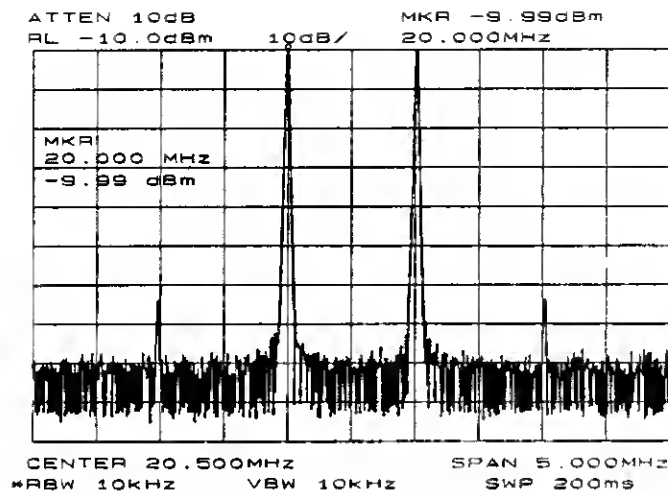

Figure 3-9. Signal peak set to reference level.
3. For greatest measurement accuracy, position the peaks of the source signals at the reference level. The spectrum analyzer function **MARKER -> REF LVL** allows you to set the reference level using a marker. First, place a marker on the source signal of highest amplitude by pressing **(PEAK SEARCH)**. Then set the reference level to this value by pressing **(MKR ->)**, and then **MARKER -> REF LVL**. Figure 3-9 illustrates the resulting display.